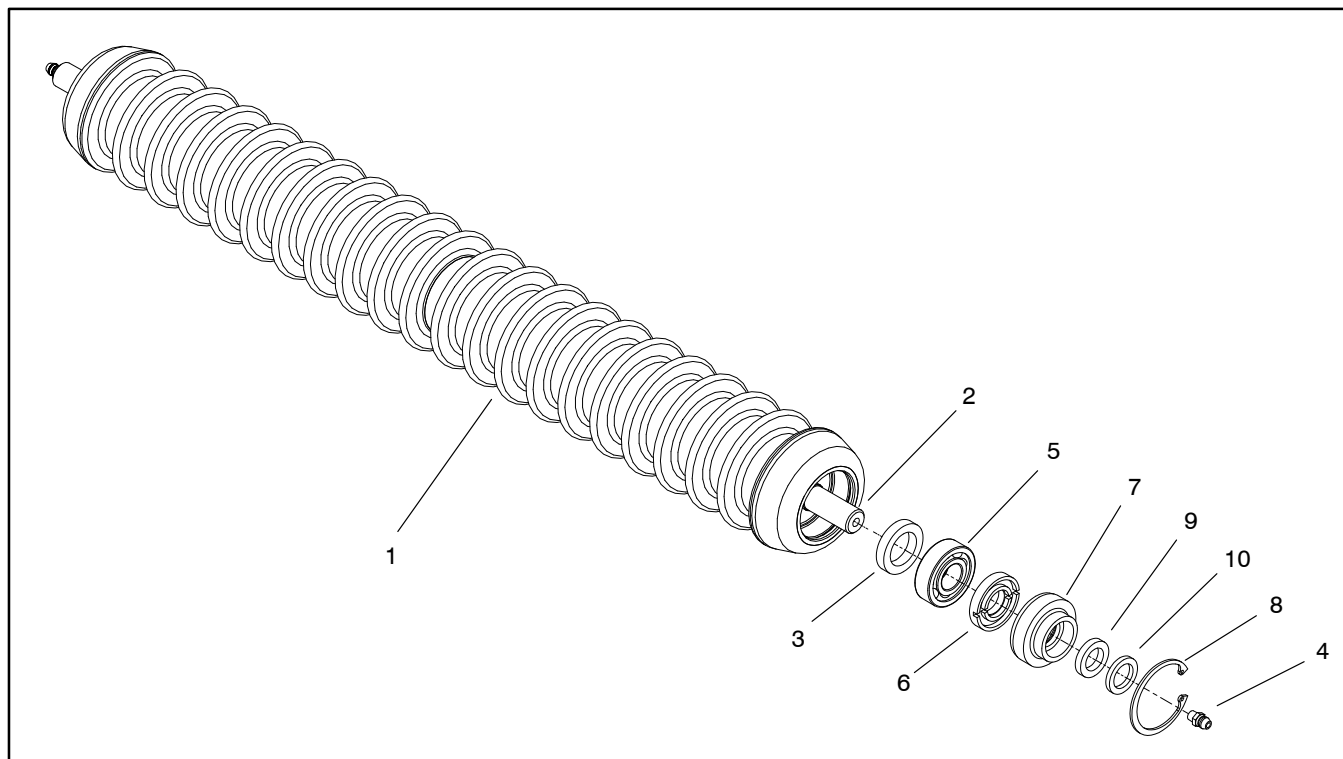
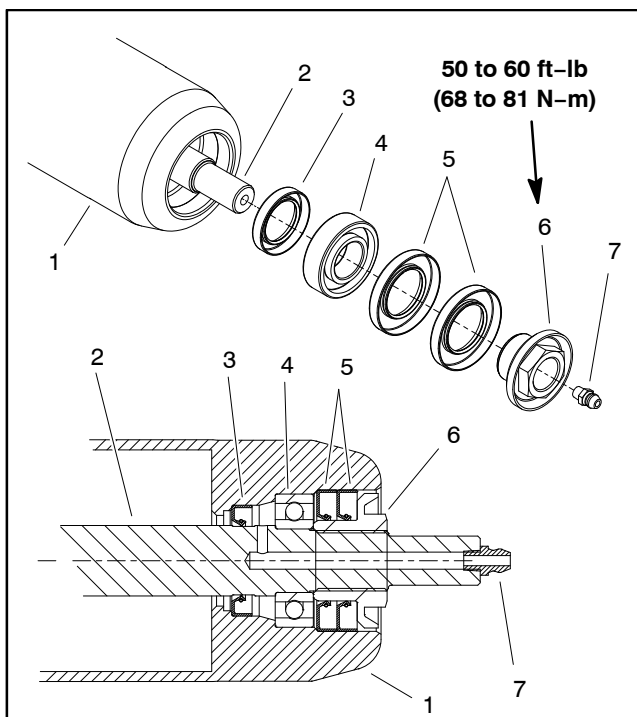

Figure 46
Figure 48
**NOTE:** Numerous front and rear rollers are available for the Reelmaster cutting units. These rollers use one of two styles of bearing and seal configurations. The first design has retaining rings that secure the bearings and seals in the roller (Fig. 46). The second design uses a bearing lock nut to retain bearings and seals (Fig. 48).
### Disassembly (Figs. 46 and 47)
## Assembly (Figs. 46 and 47)
### Disassembly (Fig. 48)
### Assembly (Fig. 48)